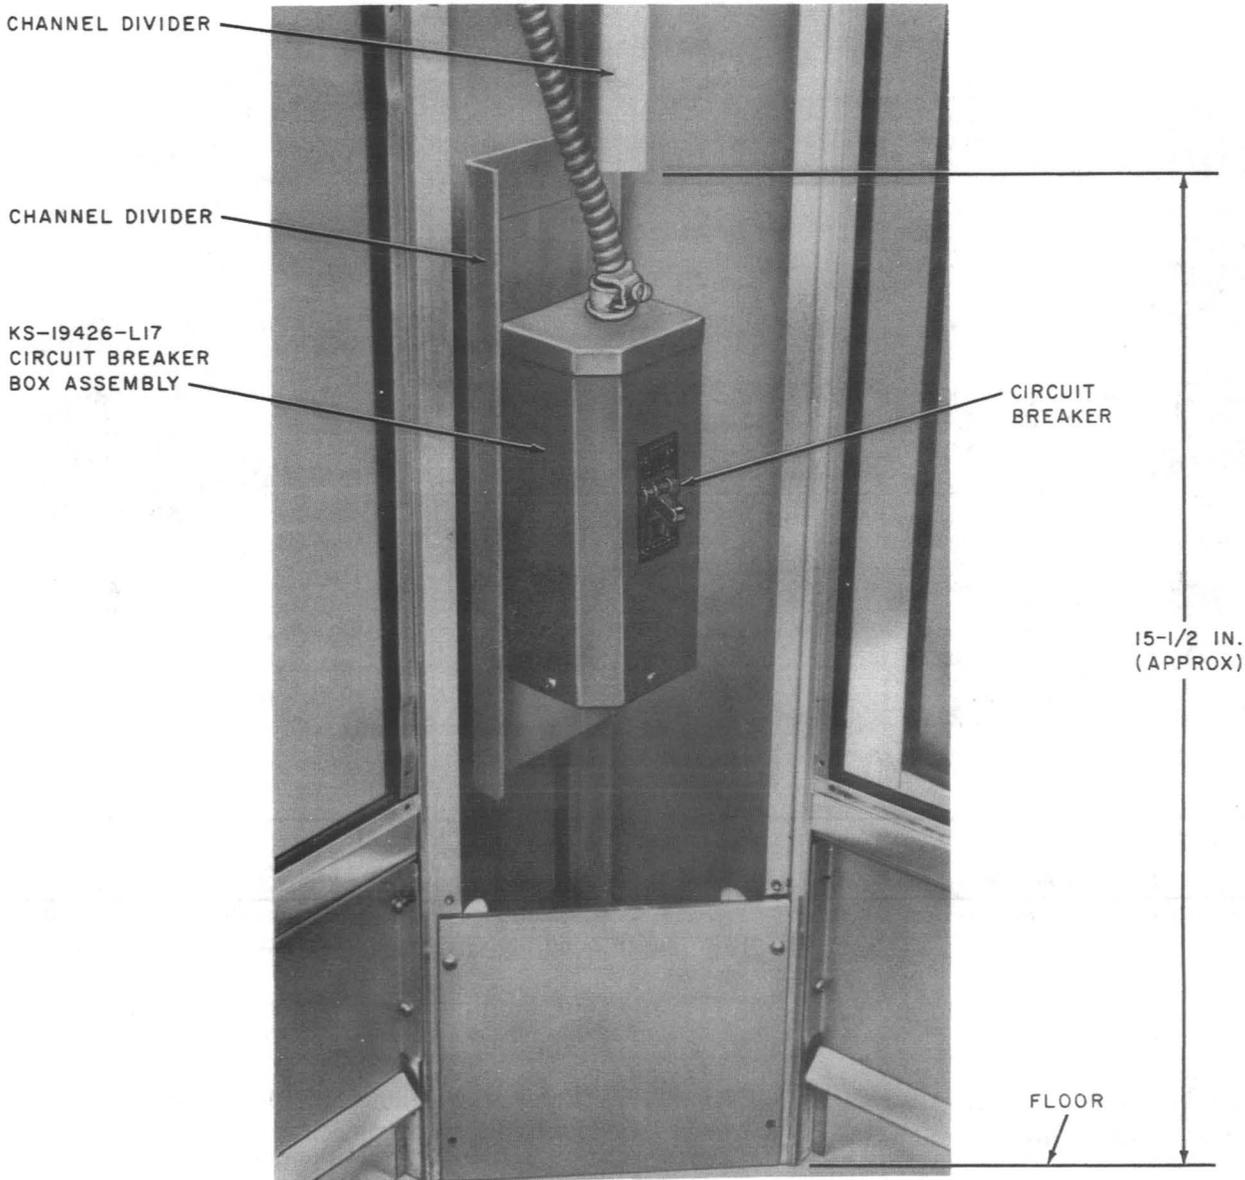

Fig. 18—KS-19426, List 17 Circuit Breaker Box Assembly, Installed
- (1) Remove corner panel below coin telephone set to make work area accessible (Fig. 18).